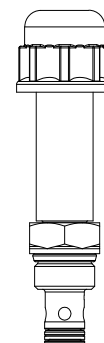

FIG. 4-7
6. Push and hold the manual override button on valve (9008438). (FIG. 4-7)